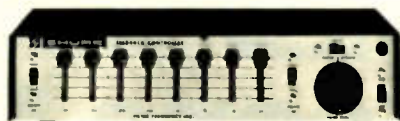

FIG. 3—SHURE M610 equalizer is designed for controlling feedback.
**FIGS. 3 AND 4—THE VOLTAGE VERSUS FREQUENCY** characteristics of the 4136 (left) and the LM318 (above) operational amplifiers. The 4136 integrated circuit contains four operational amplifiers. The LM318 is a premium device that has additional bandwidth. The basing diagrams for both integrated circuits are shown for the dual-in-line and metal-can packages.
Once the microphones and loudspeakers have been positioned for minimum feedback, electronic equalization can add further improvement by reducing the gain of the system at frequencies where feedback occurs. Figure 3 shows an electronic filter designed to reduce feedback any of eight one-octave filter bands. Narrow-band filters containing as many as 27 one-third octave filter bands are also available to provide finer control. An ordinary digital frequency meter is very useful for identifying feedback frequencies. The technique used for feedback equalization is to slowly increase the system gain until a feedback frequency is sustained. The appropriate filter is then adjusted while the system gain